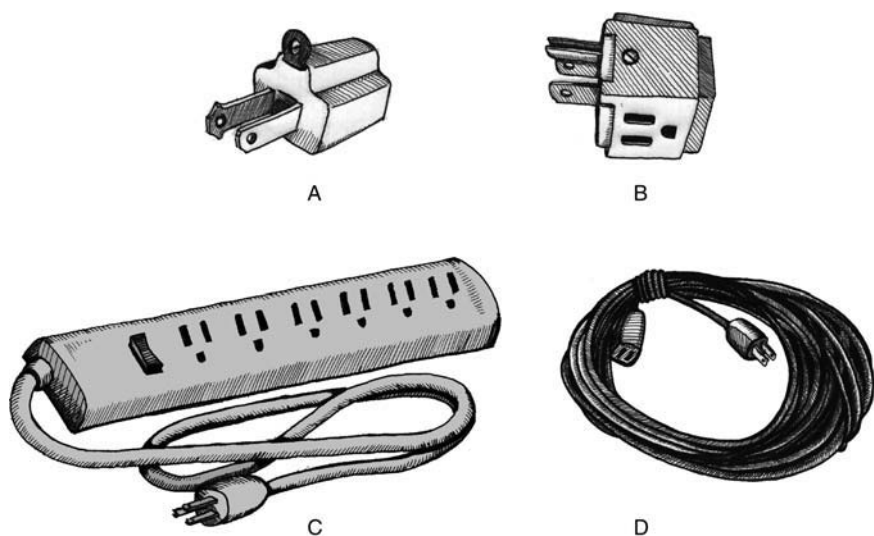

Figure D.12 A, 3-to-2 adapter. B, Cube tap. C, Power strip. D, Extension cord.
- 3-to-2 electrical adapters, cube taps, power strips, and extension cords (see Figure D.12)